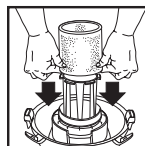

FIGURE 16
33. With tank cover in an upside down position, slide foam sleeve down over lid cage pulling until foam sleeve completely covers lid cage. **FIGURE 16.**